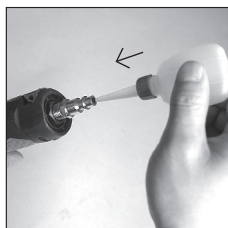

Figure 5
2. Place a few drops of air tool oil into the air inlet. (See Figure 5)